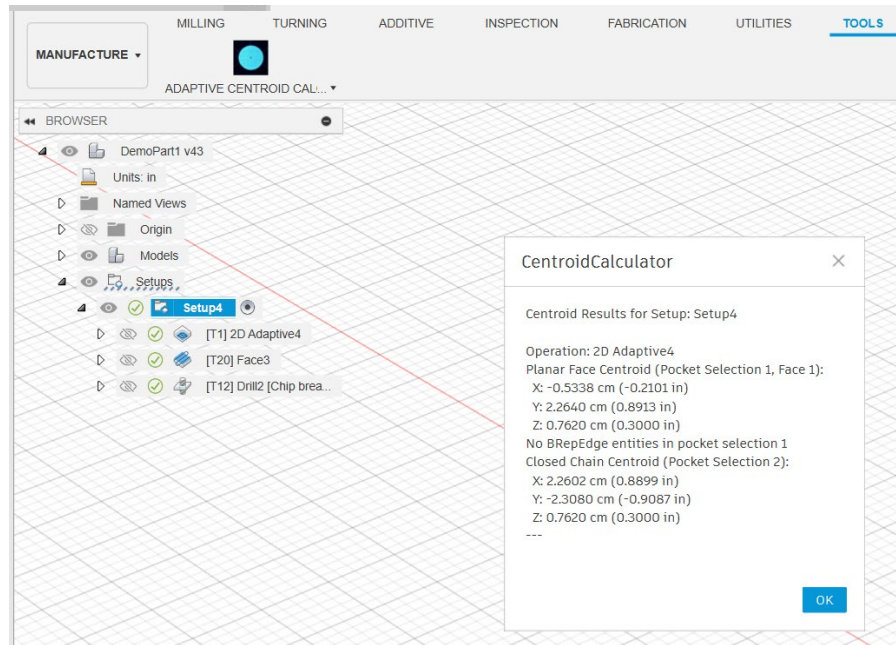

Figure 2: CentroidCalculator results dialog.
- A dialog displays the centroid results for each pocket or closed chain in the 2D Adaptive operations (see *Figure 2*).